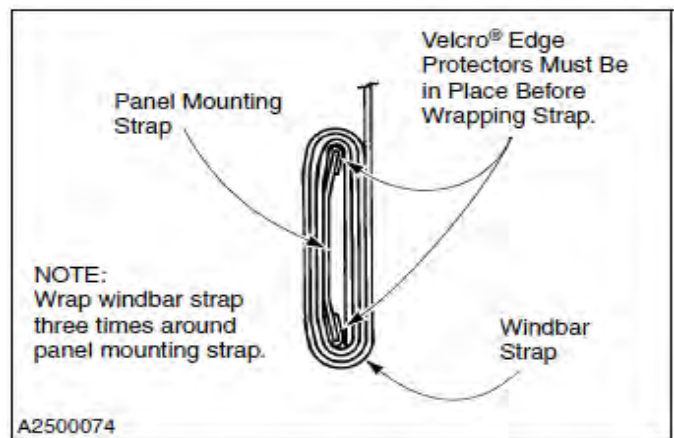

Figure 66
- Remove the old strap. Then install the new strap by first wrapping it around the panel mounting strap three times, as shown in Figure 66. Make sure the Velcro^{®1} edge protectors are in place. (See Figure 66.)